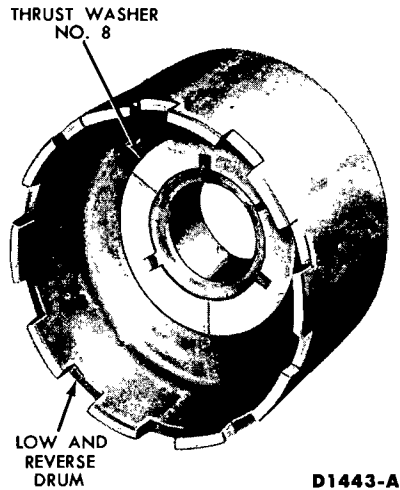

FIG. 108—Number 8 Thrust Washer Location
17. Install thrust washer No. 8 on top of the low and reverse drum (Fig. 108). Install the low-reverse band in the case, with the end of the band for the small strut toward the low-reverse servo (Fig. 51).